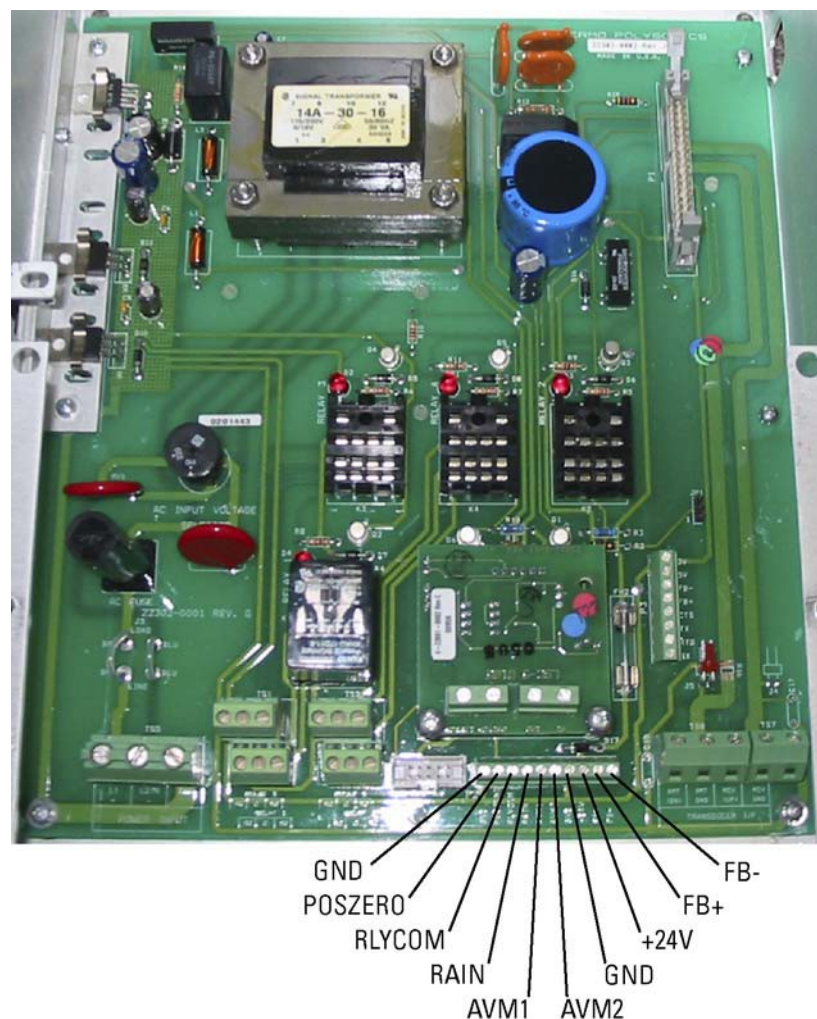

Figure 2–8. DC power connections
1. Refer to Figures 2–9 and 2–10.
6. Locate the XMT (DN), XMTGND, RCV (UP), and RCVGND wire connections within the transducer I/F block.
- a. First signal wire to XMT (DN)